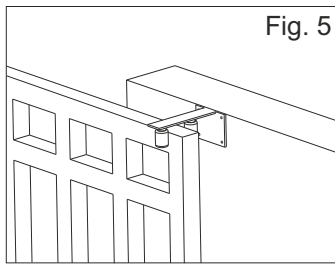
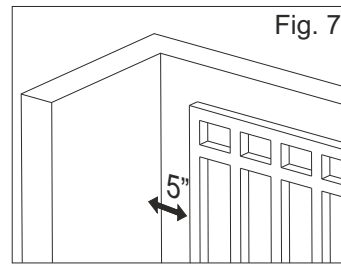

Fig. 5
Fig. 7
- d) That the distance between the end of the gate (in maximum opening position) and the eventual wall must be at least of 5 inches (fig. 7) which allow the sliding of the gate without difficulties (fig. 5 and 6).
1. Arrange a little square of concrete, see size in fig. 5, with a perfect levelling on which the motor reducer will be fixed with the special plugs (sizes see fig. 5)
3. Before piercing the concrete square for the fixation of the motor reducer, make sure that the distance between the centre of the oblong and the gate is of 3" (fig. 5)